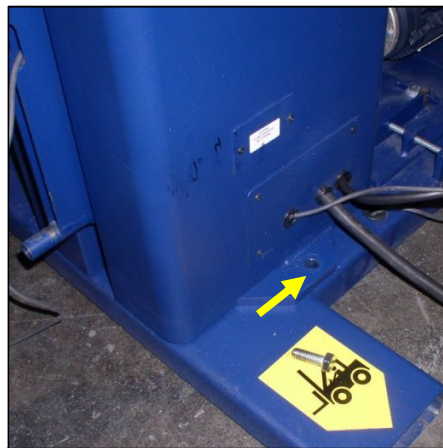

Figure 7.48
7. Use a 19 mm socket to remove the bolt that attaches the mast to the base (Figure 7.48).